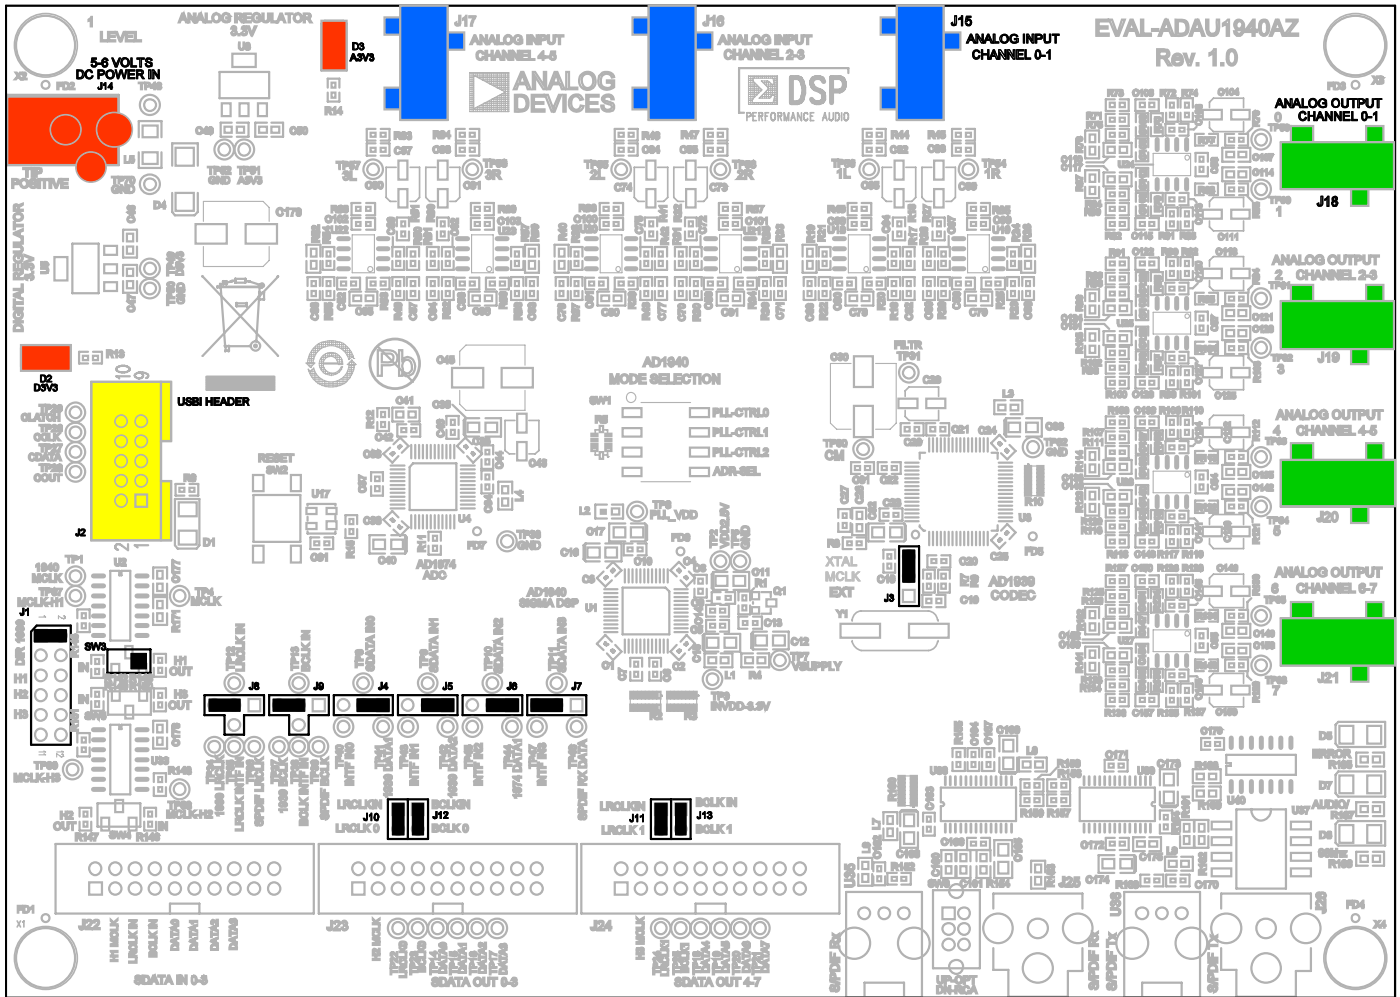

Figure 3. Evaluation Board Default Setup and Configuration
In order to configure the board for stereo analog in and out, make sure the switches and jumpers are set as indicated in Figure 3.
10. Connect all the cells as depicted in Figure 3.